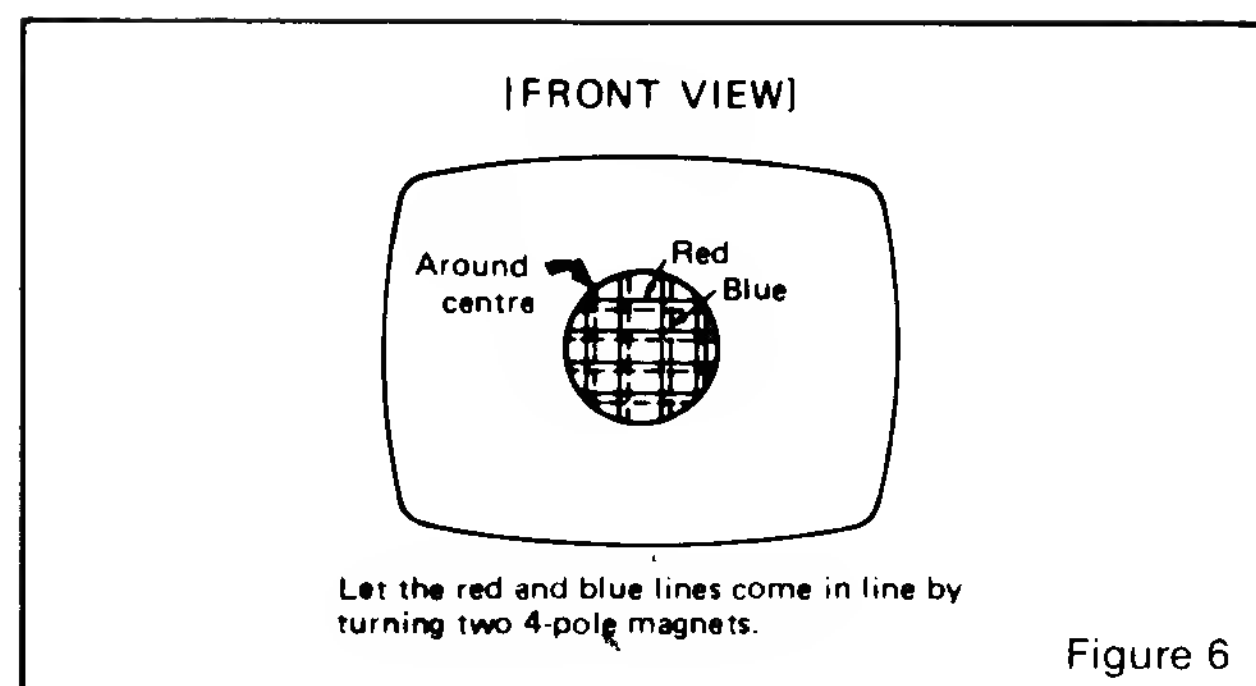

Figure 6
2.5 Rotate the 4-pole (middle) pair of magnets as a unit to minimize separation of the red and blue crosshatch lines around the center of the screen (Figure 6). Variation of the angle between the tabs adjusts convergence of red and blue. (Tilt yoke as required to converge red and blue at the edges as in 2.3 above.)